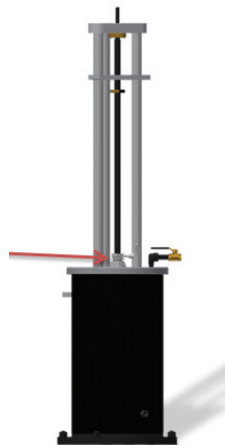

Figure D-13
**D1.20)** Lift the insertion housing vertically onto the alignment plate. Ensure packing nut thumb screw is loose and that cartridge is sitting flush against the cartridge alignment plate (see Figure D-13).